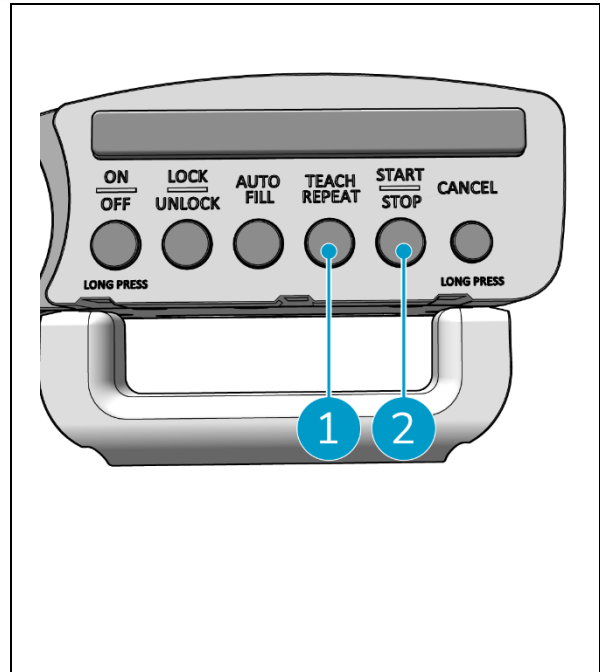

Figure 28
2. Press the Teach Repeat button (Figure 28, pos. 1). The Teach Repeat button will be white.
3. Guide the i-walk around the area you want to clean. When you arrive at the starting point, the Start/Stop button (Figure 28, pos. 2) will flash blue.